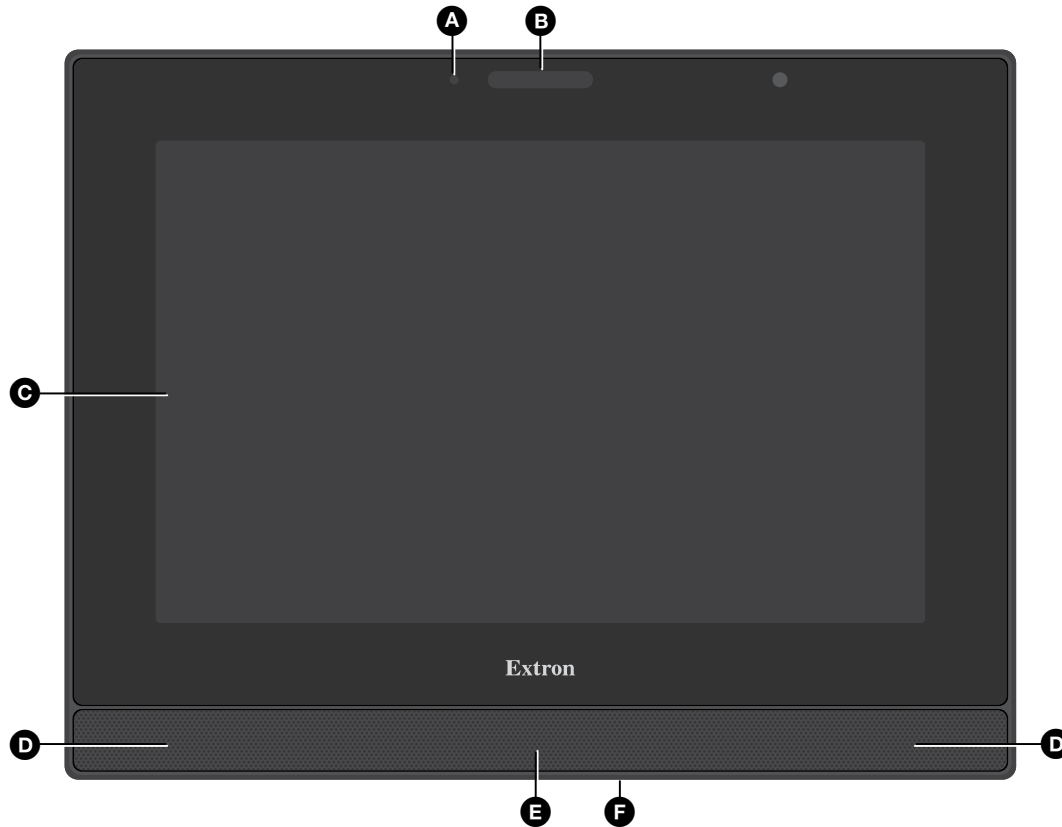
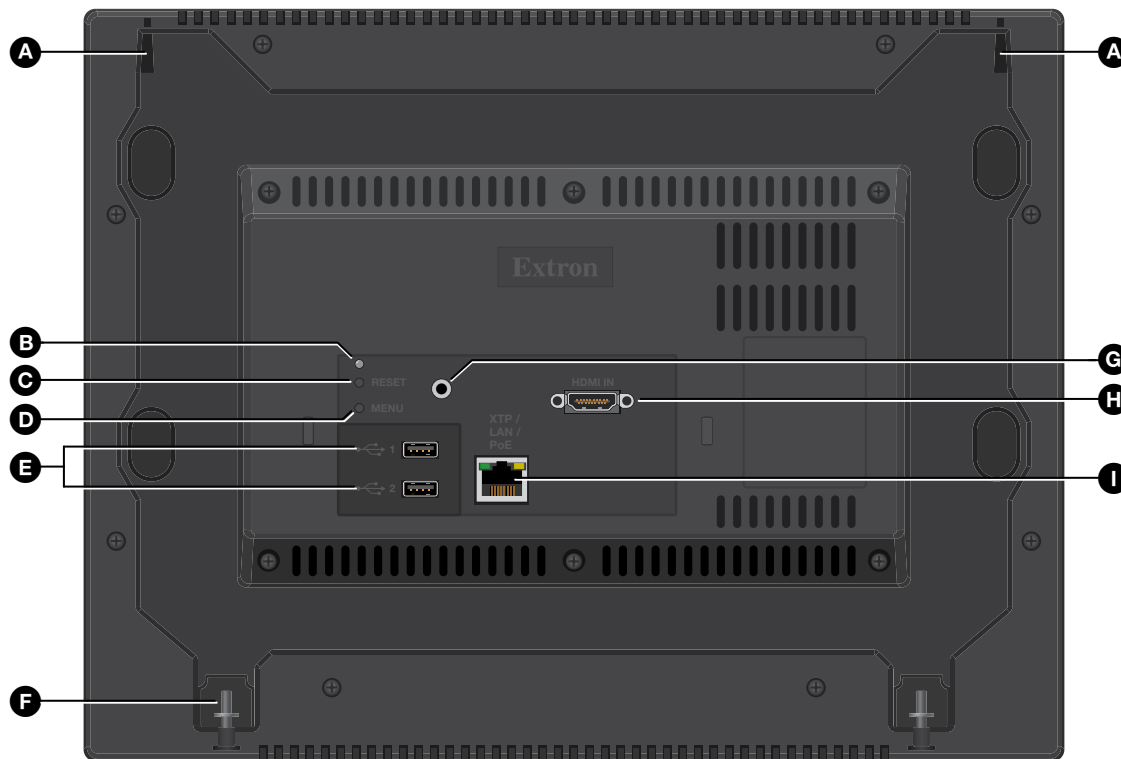

Figure 2. TLP Pro 1225MG Front Panel
Figure 3. TLP Pro 1225MG Rear Panel
Figure 2 shows the TLP Pro 1225MG front panel. The TLP Pro 1525MG and TLP Pro 1725MG features are very similar.
Figure 2 shows the TLP Pro 1225MG rear panel. The TLP Pro 1525MG and TLP Pro 1725MG features are very similar.
2. Connect a second straight-through cable (❷) from the power injector to the TLP Pro touchpanel XTP/LAN/PoE connector (see figure 3, ❶, on page 4). This cable carries the network information and 48 VDC from the power injector to the touchpanel.
- **Use factory firmware:** Use this mode to replace firmware in the event of firmware failure. Press and hold the **RESET** button (see figure 3, ❸) while applying power to the unit.
- **Reset All IP Settings:** Use this mode to reset all network settings without affecting user-loaded files. Press and hold the **RESET** button for 6 seconds. After the **RESET** LED (❷) blinks twice, release and momentarily press the **RESET** button.
Press the MENU button (figure 2, **F** on page 3 or figure 3, **D**, on page 4) to open the setup menu. Select any of the six available screens (**Status**, **Network**, **Display**, **Audio**, **Input** and **Advanced**) by tapping the appropriate button in the navigation bar at the top of the screen (for more information, see the *TLP Pro 1225, 1525, and 1725 Series User Guide*).